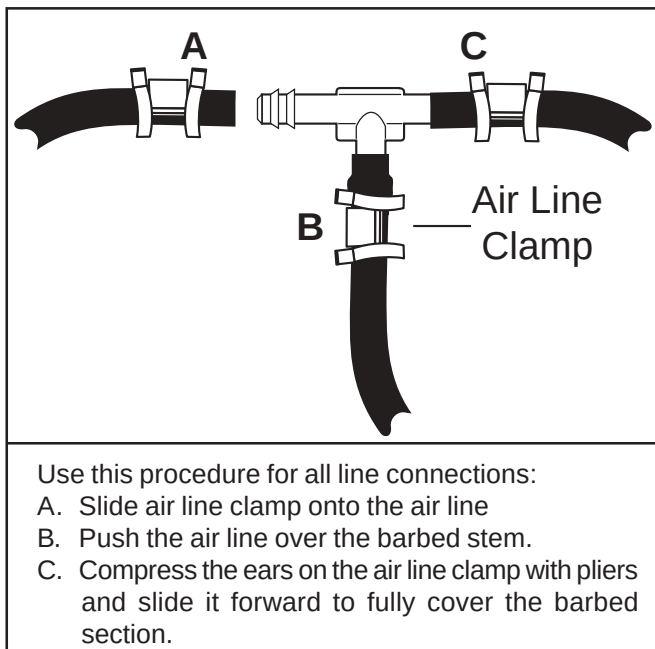

Figure 4
4. Push the air line over one side of the tee until all the barbs are covered. Repeat procedure for other leg of tee (Figure 4).
5. With pliers, slide the air line clamp forward until it fully covers the barbed section. Repeat for other leg of tee (Figure 4).
13. Slide air line clamp over the air line. Push air line onto fitting covering all barbs. With pliers slide the air line clamp forward until it fully covers the barbed section (Figure 4).